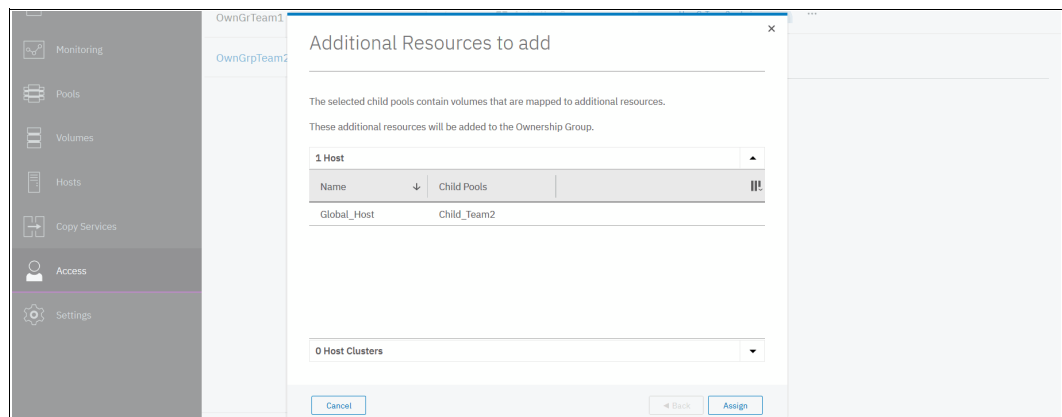

Figure 11-17 Additional Resources to add
- After you click **Next**, the system notifies you that there are more resources that will inherit ownership from a volume, and because the volume is mapped to a host, the host will become an ownership group object, as shown in Figure 11-17.